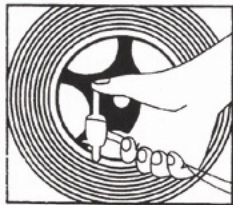
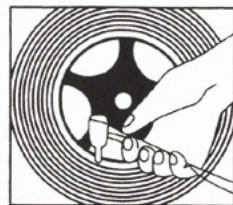

Fig.1
Fig.2
1. Firmly push the connector onto the tire's valve stem (Fig. 1) and close the locking thumb latch (Fig. 2). (Make sure that the connector is on tight before locking the thumb latch to insure proper operation)